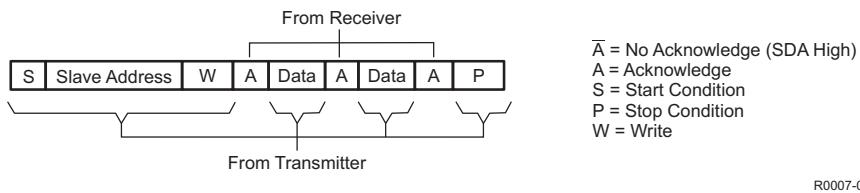
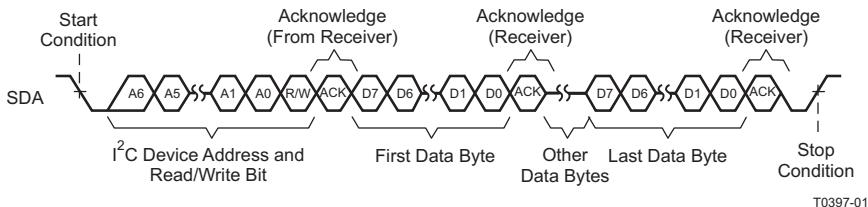
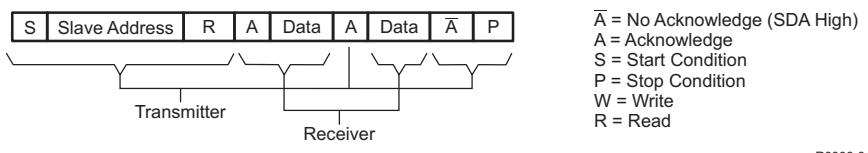
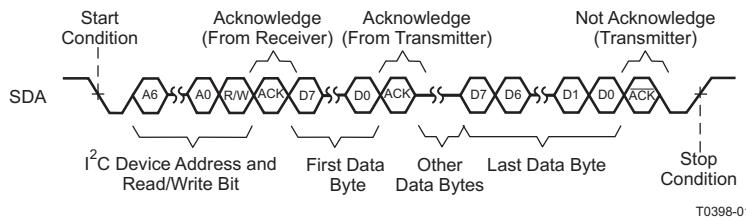

Figure 54. I²C Write Cycle
Figure 55. Multiple-Byte Write Transfer
Figure 56. I²C Read Cycle
Figure 57. Multiple-Byte Read Transfer
- The master generates further SCL cycles to either *transmit* data to the slave (R/W bit 0) or *receive* data from the slave (R/W bit 1). In either case, the *receiver* must acknowledge the data sent by the *transmitter*. So an *acknowledge* signal can be generated either by the master or by the slave, depending on which one is the receiver. The 9-bit valid data sequences consisting of 8-bit data and 1-bit acknowledge can continue as long as necessary (See Figure 54 through Figure 57).
During a write cycle, the transmitting device must not drive the SDA signal line during the acknowledge cycle so that the receiving device may drive the SDA signal low. After each byte transfer following the address byte, the receiving device pulls the SDA line low for one SCL clock cycle. A stop condition is initiated by the transmitting device after the last byte is transferred. An example of a write cycle can be found in Figure 54 and Figure 55. Note that the TMDS261B allows multiple write transfers to occur. See the Example – Writing to the TMDS261 section for more information.
During a read cycle, the slave receiver acknowledges the initial address byte if it decodes the address as its address. Following this initial acknowledge by the slave, the master device becomes a receiver and acknowledges data bytes sent by the slave. When the master has received all of the requested data bytes from the slave, the not-acknowledge (A) condition is initiated by the master by keeping the SDA signal high just before it asserts the stop (P) condition. This sequence terminates a read cycle as shown in Figure 56 and Figure 57. See the Example – Reading from the TMDS261 section for more information.